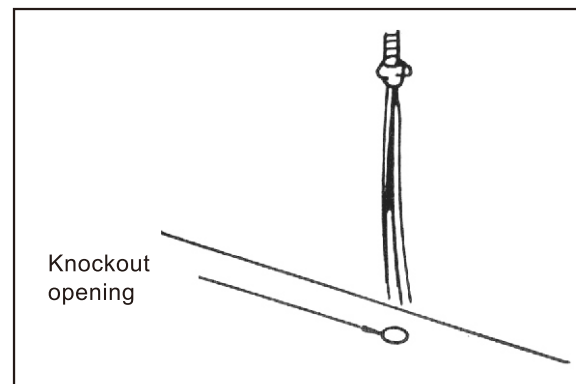

Fig.12 Route the power supply cord
8. Locate the range hood on the bottom of the cabinet. Thread the power supply cord through the knockout and secure the power cord on the hood. (Fig.12 )